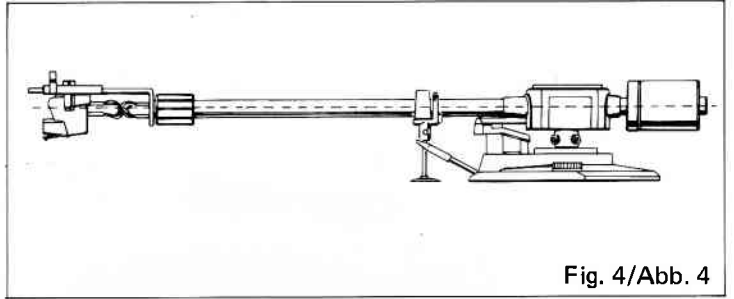

Fig. 4/Abb. 4
2. Carefully release the tone arm from its rest and balance the tone arm horizontally by turning the counter weight clockwise or counter-clockwise (Fig. 4).